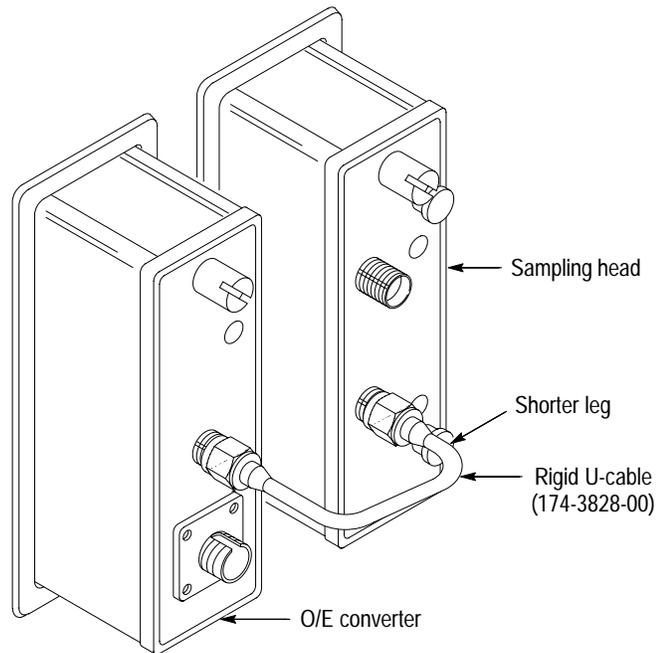

Figure 2: Using the rigid connector (all sampling heads except SD-32)
NOTE. For the best performance, connect the SD-43 Optical-to-Electrical Converter to the input of the sampling head using the rigid connector provided. The sampling head must be in the compartment immediately to the right of the O/E converter. See Figure 2 on page 5.
- a. On all sampling heads *except* the SD-32, use the rigid connector and install the shorter leg of the connector on the sampling head. See Figure 2.